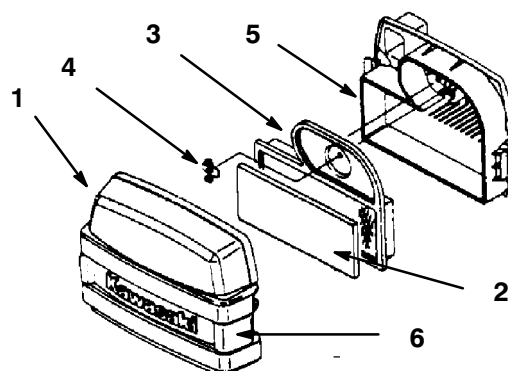

Figure 38
2. Clean around the air cleaner to prevent dirt from getting into the engine and causing damage. Unlatch two side latches and remove the air cleaner cover (Fig. 38).
3. Carefully remove the foam element from the paper element (Fig. 38).
4. Unscrew the wing nut and remove the paper element (Fig. 38).
1. Carefully slide the foam element into the paper air cleaner element (Fig. 38).
2. Place the air cleaner assembly onto the air cleaner base and install wing nut (Fig. 38).
3. Install the air cleaner cover and latch (Fig. 38).